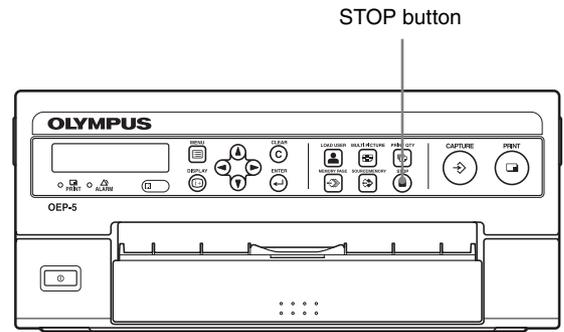

Figure 4.15
- 1 Press the “STOP” button (see Figure 4.15). Printing stops after completing printing of the current sheet.